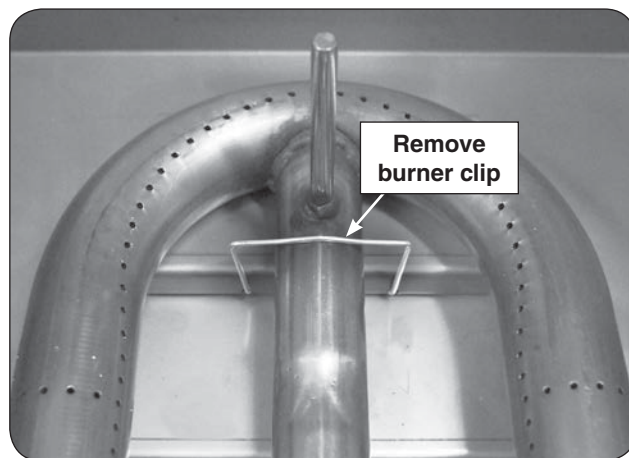

Fig. 35-1 Main burner removal
2. Locate the burner clip (located over the rear center tube of the burner) and slightly pinch and remove the clip from the burner support. See Fig. 35-1.